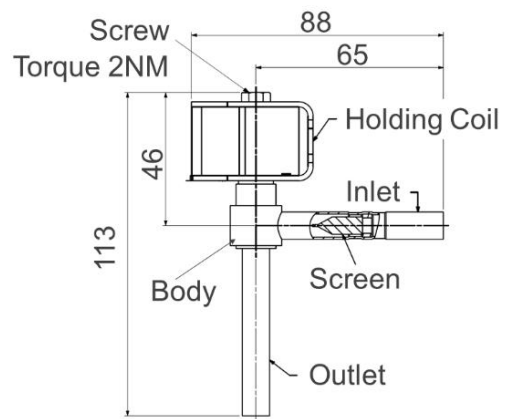

Figure 7: Control valve with coil
- The valve body contains a small filter mesh, to avoid large particles entering the inside (see **Figure 7**), which could lead to a defect and blockage. The filter is part of the valve delivery and already crimped inside; it cannot be changed. This is different from previous valve body versions, where the filter was delivered loose to the valve body and could be exchanged.